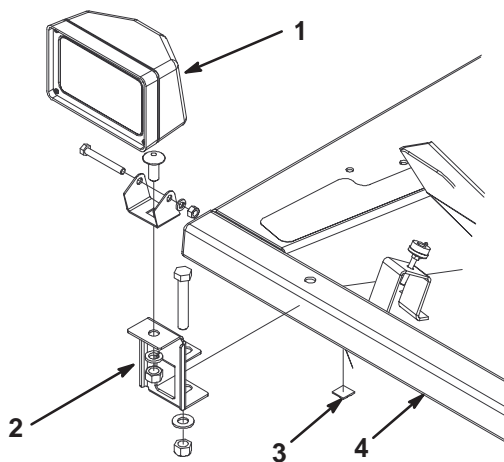

Figure 9
1. Fasten the headlight brackets to the existing holes in front of the operator's platform with a screw (1/2–13 x 3 in.), flat washers, and locknuts (Fig. 9).
2. Fasten the headlight assemblies to the headlight brackets (Fig. 9) with carriage bolts, lock washers, and hex nuts furnished in the kit.